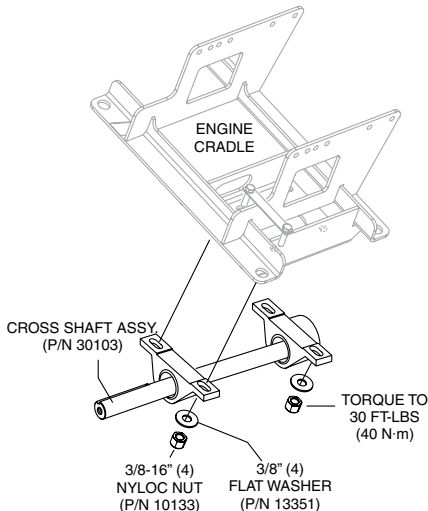

Figure 13. Cross Shaft Installation
4. Using a 3/8" ratchet with a 9/16" socket, install **new** cross shaft assembly (Figure 13), P/N 30103, with 3/8-16 nyloc nuts (4), P/N 10133, and 3/8 flat washers (4), P/N 13351, onto engine cradle.